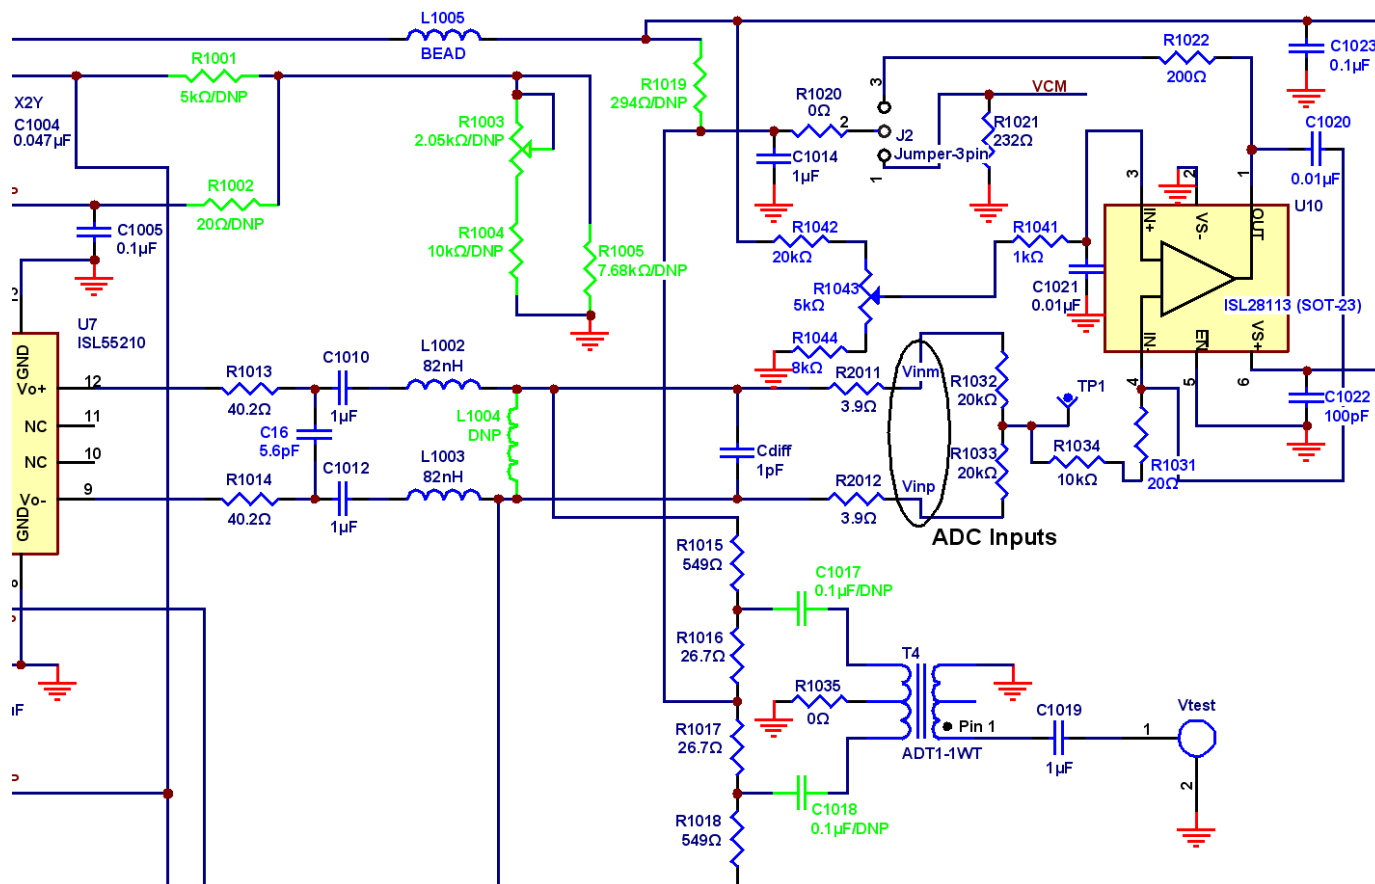
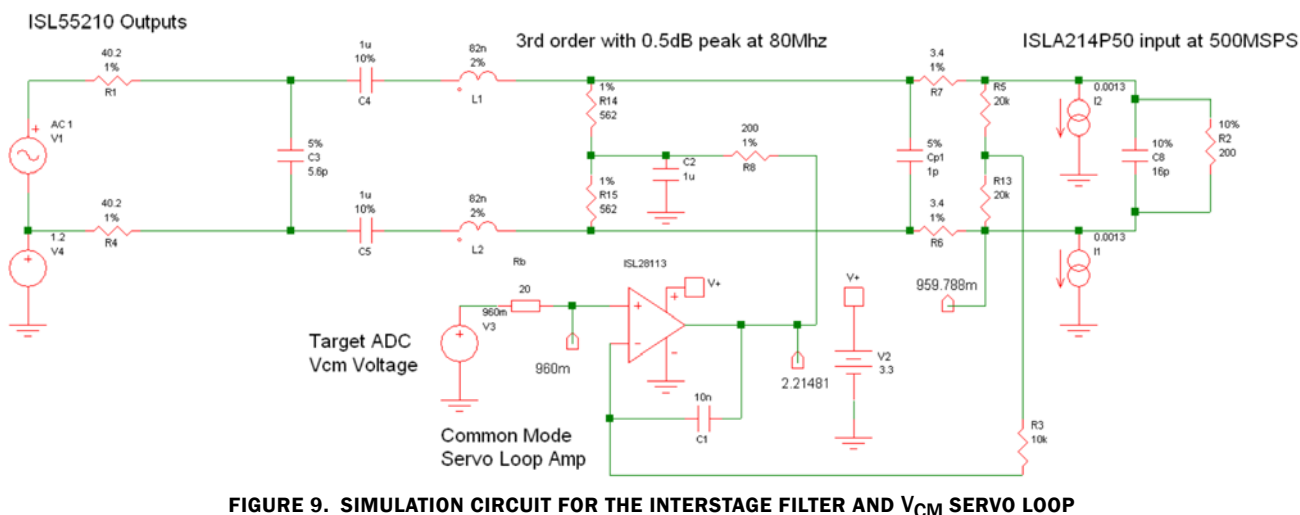
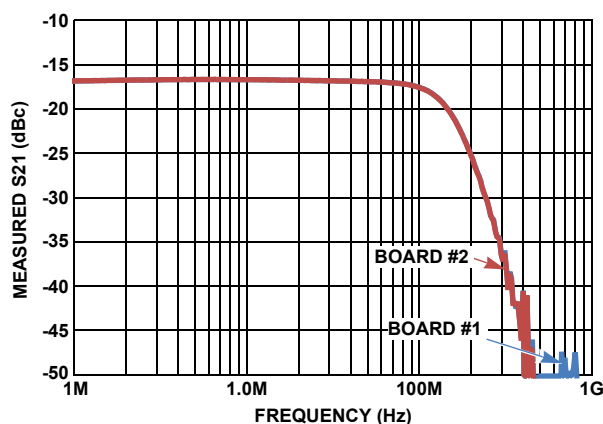

FIGURE 8. OUTPUT INTERFACE FROM ISL55210 TO THE ISLA214P50 DIFFERENTIAL INPUTS
FIGURE 9. SIMULATION CIRCUIT FOR THE INTERSTAGE FILTER AND V_{CM} SERVO LOOP
FIGURE 11. OVERALL FREQUENCY RESPONSE SHAPE FROM THE BOARD INPUT TO THE ADC
The signal path from the ISL55210 to the ADC is AC coupled, allowing the amplifier and ADC to operate at the common-mode voltage that optimize each device's performance. As delivered, the differential output of the ISL55210 operate with a common mode voltage that is left to default to the internal 1.2V value. This can be adjusted to different set point via an optional path. The interstage passive circuit provides an AC coupled, 3rd order low pass filter. Built into this filter are an ADC common mode voltage servo loop which controls the common-mode DC voltage delivered to the ADC input pins and a wideband passive sense path going differential to single ended to directly measure the response shape to the ADC inputs. The circuit as delivered is shown in Figure 8.
The differential signal at the outputs of the ISL55210 proceeds from left to right in Figure 8 through the 40.2Ω resistors to a differential 5.6pF capacitor and then into the 1μF DC blocking capacitors. Those level shift the DC operating voltage from the FDA outputs to the required common mode voltage at the ADC inputs. The rest of the passive filter from there is pair of series 82nH inductors then into a parallel RC network comprised of the 4 resistor network feeding the differential to single ended sense path at the output of T4, an external 1pF differential capacitor and then the internal RC elements of the ADC. A final circuit element senses the average common mode voltage at the ADC inputs using the 2-20kΩ resistors and feeds that into a low frequency servo loop amplifier using the ISL28113 which then feeds a DC control voltage to the center of the 4-resistor string that acts to control the ADC common mode operating voltage to the reference voltage applied at the ISL28113 V_+ input.
Critical to understanding the response shape are the estimated internal ADC elements as shown in the simulation circuit for this interface in Figure 9 (this element numbering here does not follow the build schematic of Figure 8)
This slight peaking is intended to equalize some of the rolloff up to the FDA outputs but then bandlimit quickly above 100MHz. The V_{TEST} of Figure 8 provides an easy means to verify the frequency response shape from the board input to the ADC. The 4 resistor network feeding T4 in Figure 8 shows a about a 25Ω source to each leg of the 1:1 transformer while its total impedance across the signal path is part of the filter design. This path will have considerable insertion loss (≈ -31.8 dB) but an accurate replica of the response shape as shown for 2 boards measured in Figure 11.
Clearly the overall response shape is doing a good job of providing approximately 15dB gain from board edge with <1dB rolloff to 100MHz. It is important for distortion reasons to stay away from the rolloff regions of the input step up transformer. The intended minimum frequency in this application is 100kHz, well above the 40kHz -1dB measured on the ADT4-6T while the maximum intended frequency is 100MHz which is also well below the measured 180MHz -1dB frequency on the ADT4-6T. The interstage filter bandlimits the broadband noise out of the ISL55210 to reduce SNR degradation through the ADC while also providing a bit of HD2 and HD3 attenuation from the FDA outputs to the ADC inputs. For instance, a single tone 80MHz at the FDA output pins will have an HD2 at 160MHz and an HD3 at 240MHz. The response shape of Figure 11 suggests that HD2 term will get about 4dB attenuation while the HD3 term will get 13dB attenuation to the ADC inputs.
2. The ADC input resistance will increase slightly. The 200 Ω internal value shown in the simulation circuit of Figure 9 is a combination of an extrinsic 300 Ω element and the effective resistance of a sampling cap. That impedance is approximately $1/(F_s * 3.3pF)$. As the clock rate decreases, this impedance will increase moving the apparent input resistance up. By 200MSPS the total ADC internal resistance is $\approx$ 250 Ω . This shift will slightly change the response shape of the interstage filter.